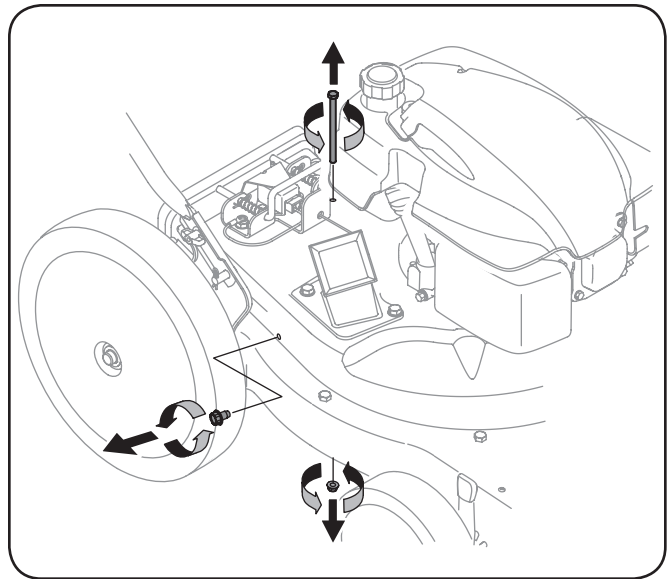

Figure 6-2
4. Remove self tapping screw on right side of unit that attaches to the flail screen. See Fig. 6-2.
5. Remove hex screw on top of rear housing near mounting bracket and the flange lock nut that secures flail screen. See Fig. 6-2.